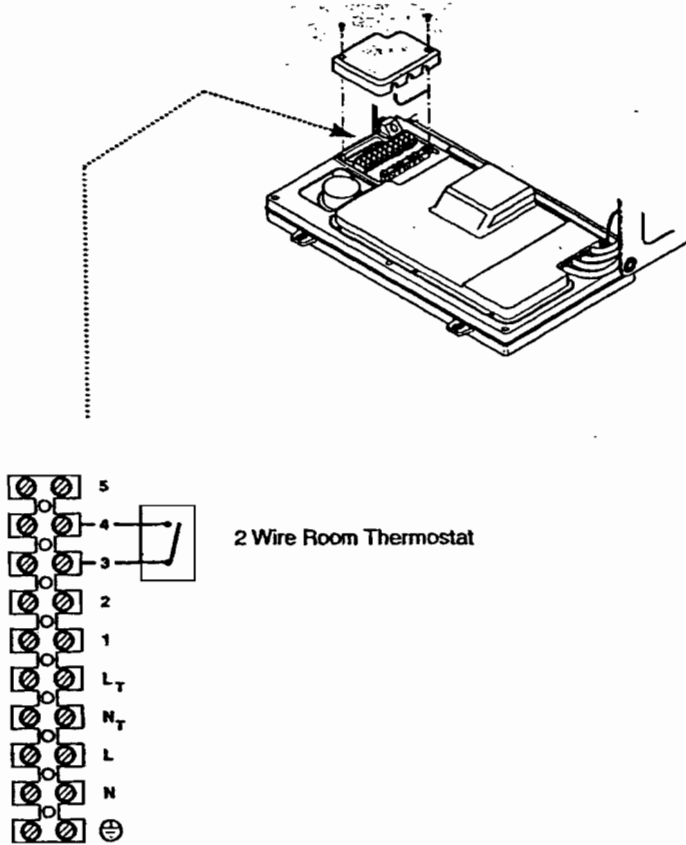

Fig. 34
2. To fit a 2-wire thermostat, remove link and wire the thermostat switch between positions 3 & 4 (Fig. 34).